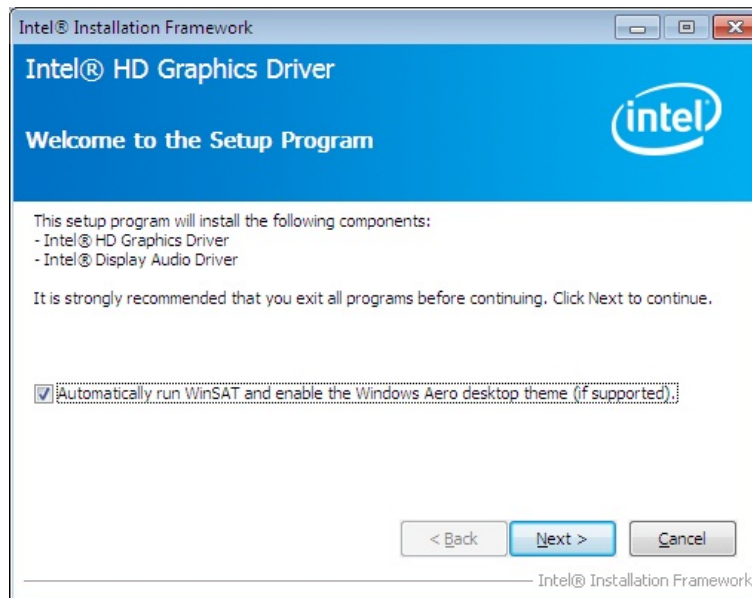

Figure 6-6: Graphics Driver Welcome Screen
Step 4: The **Welcome Screen** in **Figure 6-6** appears.